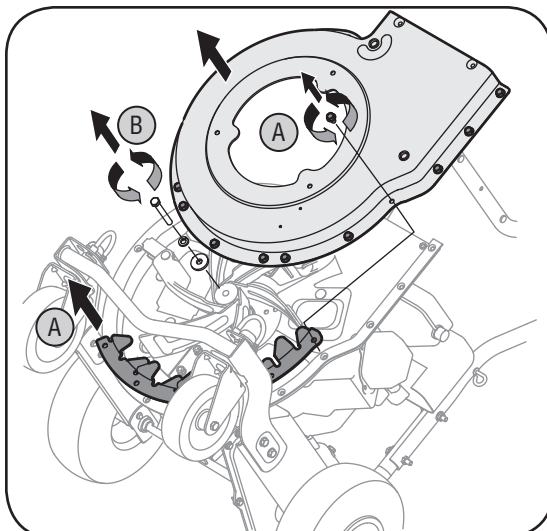

Figure 15
10. a. Remove the outer housing and housing blades by removing the fourteen self-tapping screws. See Figure 15.
b. Remove the hex bolt, lock washer, and flat washer that secures the impeller assembly to the crankshaft. See Figure 15.
22. Place the housing blades against the inner housing. Refer to Figure 15.